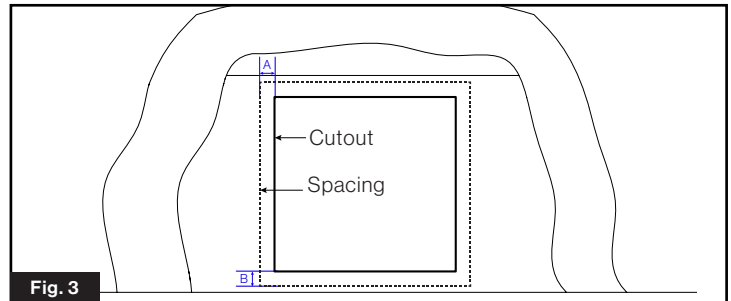

Fig. 3
- Refer to Fig. 3 for adequate spacing from other items on the RV wall to the door assembly.